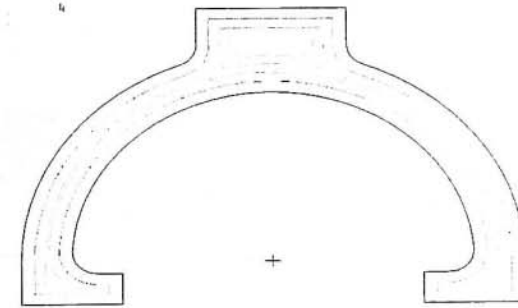

Figure 7.26 Spiral mode
- **Spiral Mode** The spiral mode starts the cutter at the pocket center or specified pocket start point and spirals it to the wall of the pocket (Figure 7.26).